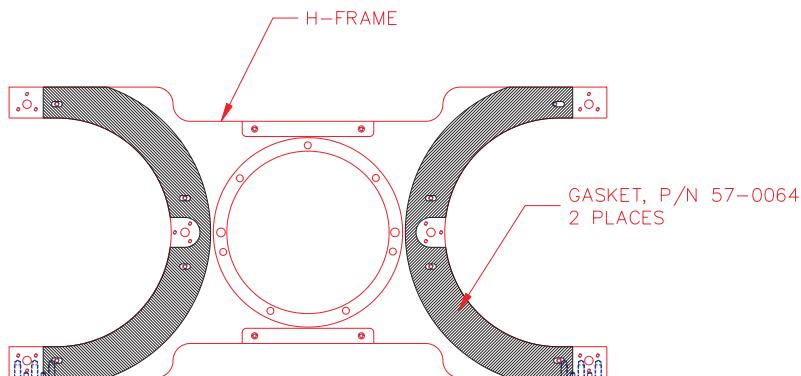

Figure 3.12-10 - Gasket Placement
11. Install the Gasket, Top Cover, P/N 57-0064 using one gasket for each end of the H-Frame. See Figure 3.12-10.